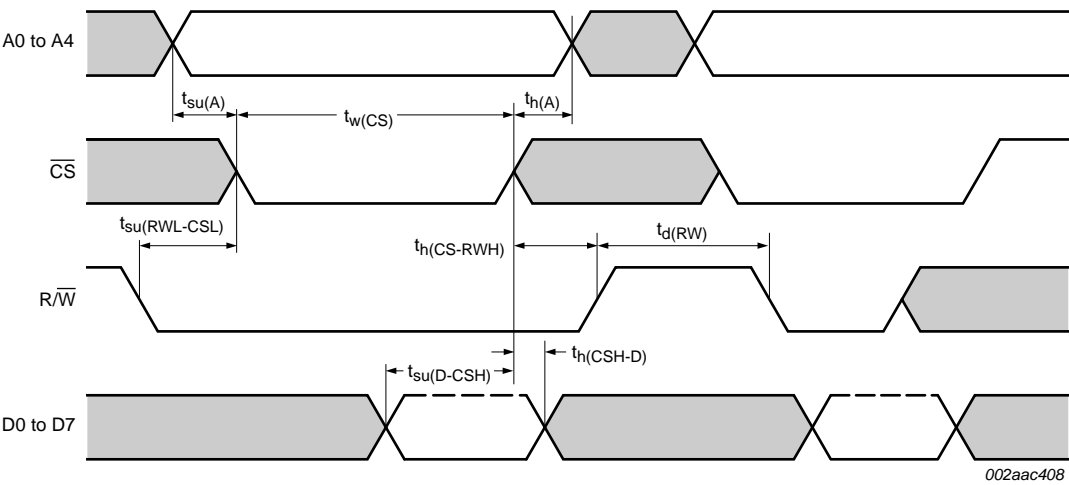

Fig 11. General write timing (68 mode)
(1) \overline{CS} timing during a write cycle. See Figure 11.